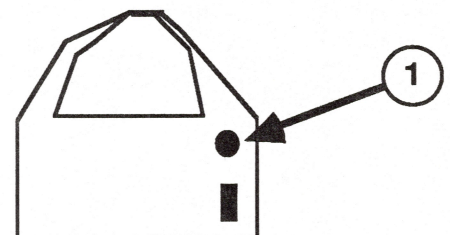

FIGURE 5
5. On the cartridge, turn the knob (see Figure 5, #1) clockwise until you hear it "click" and the ribbon is taut.